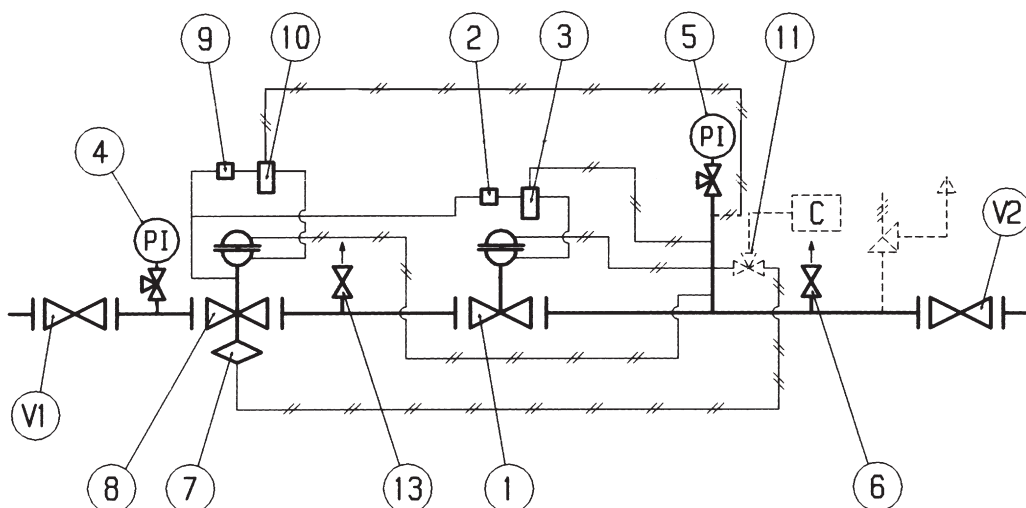

Fig. 20
5.6 COMMISSIONING THE REGULATOR PLUS REVAL 182 IN-LINE MONITOR WITH VB/93 SLAM-SHUT VALVE (FIG. 20)